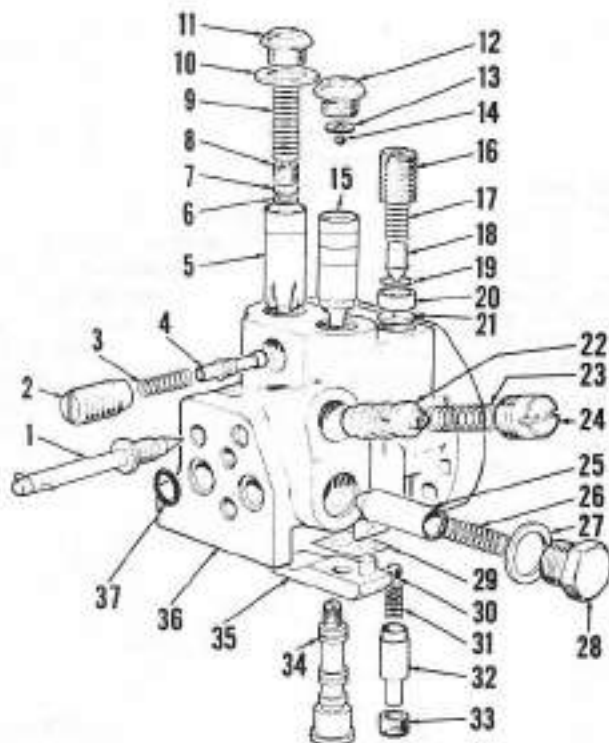
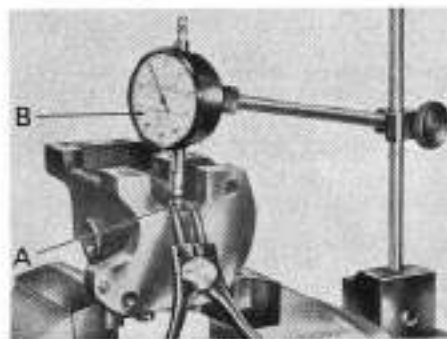

Fig. 198—Exploded view of Solenomatic control valve assembly.
Fig. 201—View showing dial indicator being used to adjust traction control valve; refer to text for procedure.
255. With control valve assembly removed as outlined in paragraph 254, refer to Fig. 198 and proceed as follows: Remove lowering control valve needle (1) and abutment plate (35), taking care not to lose any of the shims (29) located between plate and valve body. Remove the two lock nuts
With all valve parts cleaned in kerosene, air dried and lubricated with clean oil, reassemble as follows: Fit spring (not shown) on lower end of spool valve (34—Fig. 198). Push valve into position against spring and install the flat washer and two lock nuts, finger tight, on upper end of valve.
vise and turn retainer (33—Fig. 198) on traction control valve plunger (32) in until plunger free movement is restricted to 0.002, then back retainer out $\frac{1}{8}$ -turn. Mount control valve in soft jawed vise as shown in Fig. 201 and set dial indicator plunger on top of the traction control valve plunger (A). With valve plunger resting on spring, zero the dial indicator. Then, using needle nose pliers as shown, lift valve plunger up against retainer and observe dial indicator reading. If reading is not within limits of 0.034 to 0.040, readjust traction control valve retainer until correct movement of valve plunger is obtained. Stake the retainer to hold it in the correct position.
(D); gage pressure should then be approximately 2500 psi. If hold relief valve pressure is not correct, shims (19—Fig. 198) may be added or removed between retainer (16) and valve seat; removing shims will increase relief pressure. Shims are available in thicknesses of 0.003, 0.007 and 0.015.